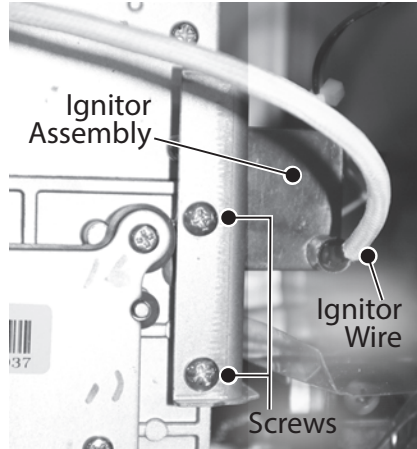

Figure 57 - Ignitor assembly location
- 4 Locate the ignitor assembly on the right side of the water heater. See Figure 57.
- 6 Remove the two screws securing the ignitor assembly and bracket to the gas manifold. Place screws aside in a safe place for reinstallation. See Figure 57.